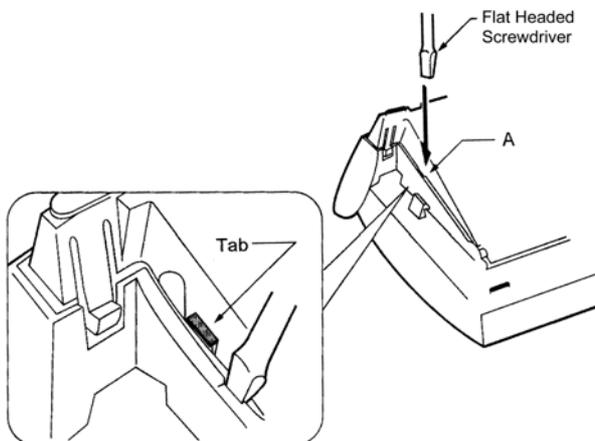

Figure 7-2 Unlocking Tab
3. Insert flat head screwdriver into A in *Figure 7-2 Unlocking Tab* and press straight down until tab unlocks.